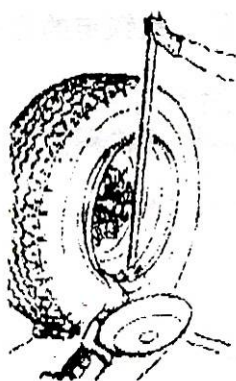

Fig2.3
- 3) Press the tire, move the tool arms outside little by little. Repeat this action, let the removing hook swing downward so that the removing hook can pull the edge of the tire (see Fig2.3).